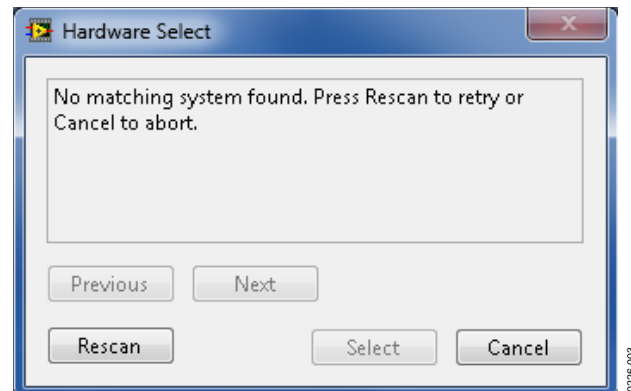

Figure 3. Connectivity Error (See Step 2)
2. If the SDP board is not connected to the USB port when the software is launched, a connectivity error displays (see Figure 3). Simply connect the evaluation board to the USB port of the PC, wait a few seconds, click **Rescan**, and follow the instructions.